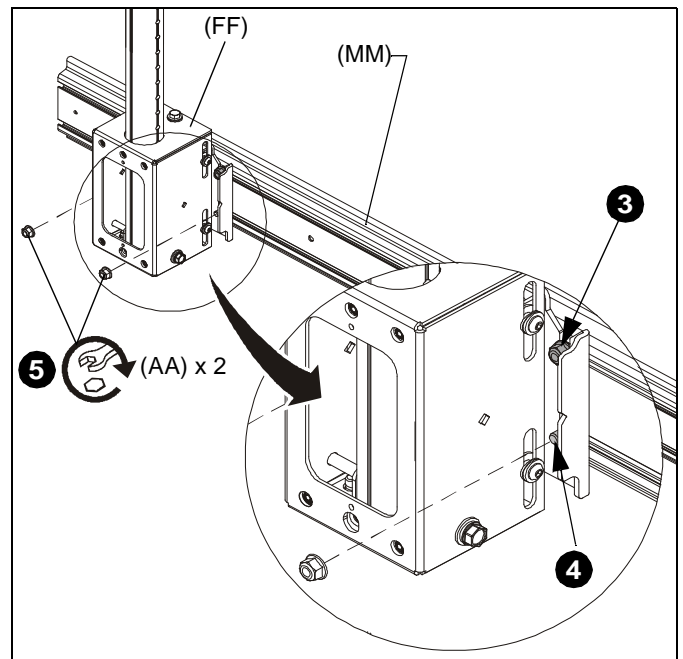

Figure 6
- Partially fasten one 5/16" lock nut (AA) to each stud on upper T-slot studs.
- Slide top T-slot studs (EE) with attached lock nuts (AA) down into top openings on array heads (FF). (See Figure 6)
- Slide studs on lower T-slot studs (EE) into lower slots on array head (FF) while bringing mounting rail against array head.
- Tighten array head to mounting rail by tightening lock nuts on upper T-slot studs and adding two 5/16" lock nuts (AA) to lower T-slot studs. (See Figure 6)
5. Tighten array head to mounting rail by tightening lock nuts on upper T-slot studs and adding two 5/16" lock nuts (KK) to lower T-slot studs. (See Figure 6)